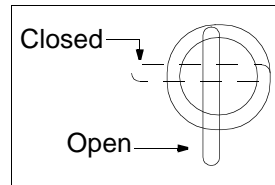

Figure 19
See Figure 19.
2. Make certain the fuel cutoff valve is in the OPEN (vertical) position. See Figure 19.